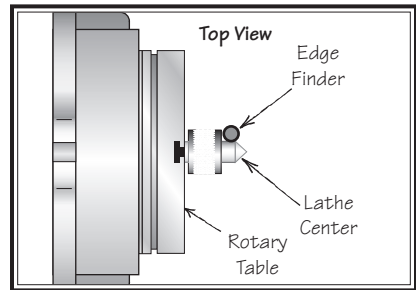

Figure 7. Using an edge finder and center to align the rotary table (top view).
- Use an edge finder mounted in the mill spindle to find the edge of the center, as illustrated in **Figure 7**.